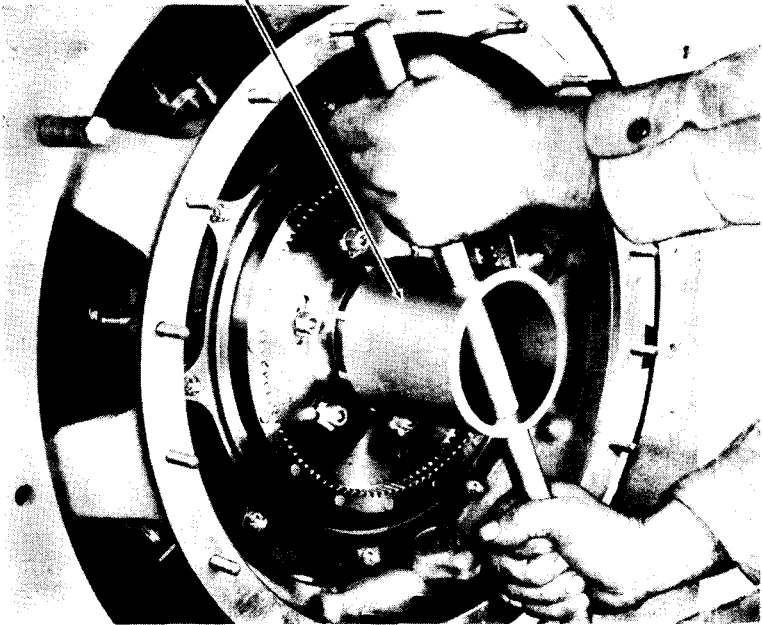

Figure 27—Remove the Fuel Cam Mounting Plate Lock Nut
56. REMOVE THE FUEL CONTROL ASSEMBLIES (figs. 27 and 70).